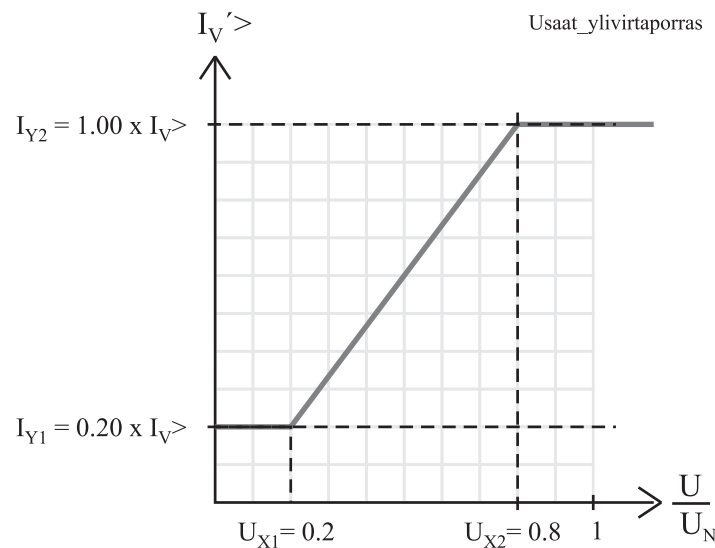

Figure 6.13: Characteristics of a voltage restrained overcurrent function $I_V >$.
In these applications the operation of the high set overcurrent function must be secured using a voltage restrained overcurrent function. At close-by short circuits the fault current rapidly decreases, thus jeopardizing the operation of the high set short circuit protection. The operation characteristic of a voltage restrained overcurrent function is shown in Figure 6.13. The under impedance protection (see Chapter 6.21 Underimpedance $Z <$ (21)) can be used for the same purpose.
When generator pole voltage falls below the set voltage level the pick-up current level of the overcurrent stage $I_V >$ also starts falling linearly controlled by the voltage according to the characteristic curve. See Figure 6.13.